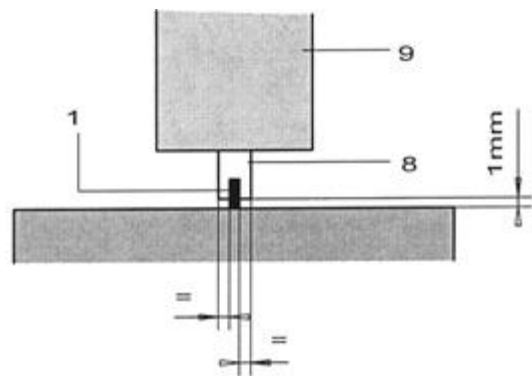

Fig. 4 Center of Y-direction
- Adjust positioning device centrally in Y-direction (see fig. 4) by rotating the three knurled screws (3) at supporting base (4) of positioning device.